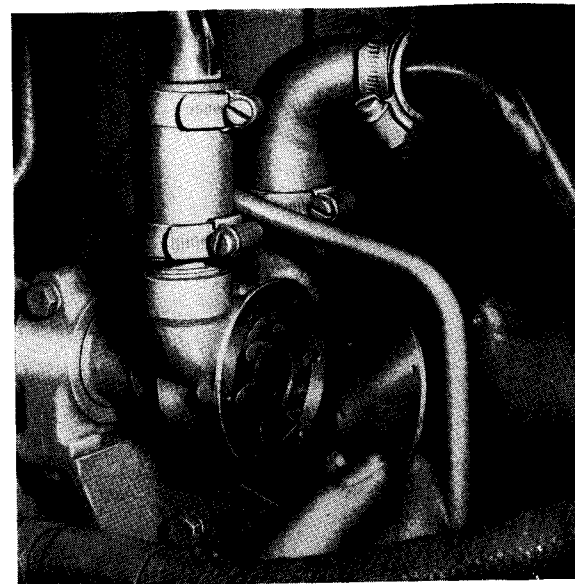

Fig. 6
11. Remove end plate from the sea water circulating pump and lubricate the interior of the pump body with Glycerine or MARFAK 2HD grease (see fig. 6), or remove impeller for lay-up period.